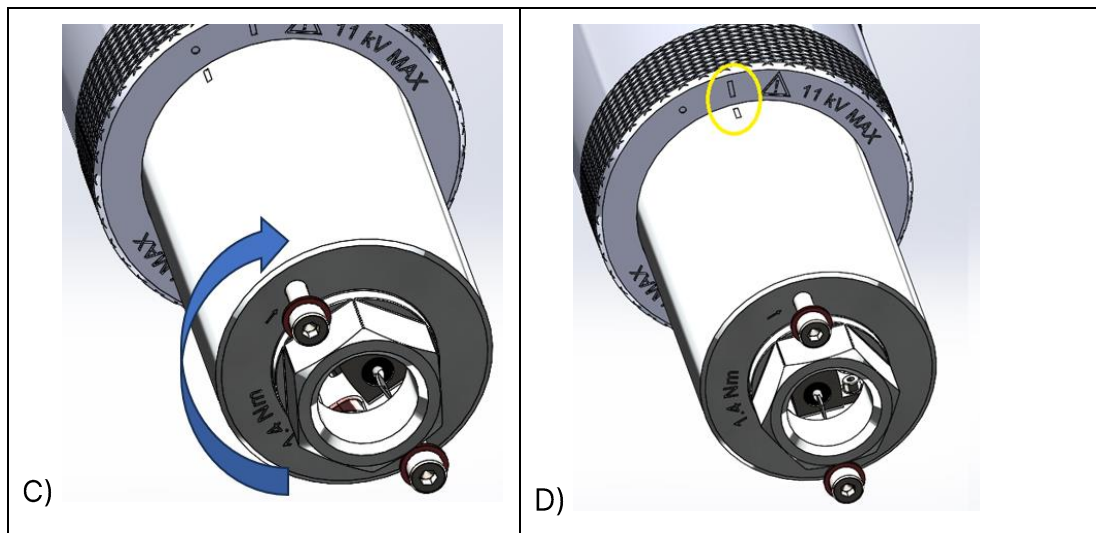

Figure 11-39: Reassemble two-piece bushing adapter
8. A) Position the sensor electronics piece over the test tap adaptor piece. B) Ensure that the sensor electronics' spring pins align with the grooves in the test tap adaptor. C.) Push down and rotate clockwise... D.) ...until the alignment marks are aligned to secure both pieces of the bushing adaptor in place as shown in Figure 11-39.